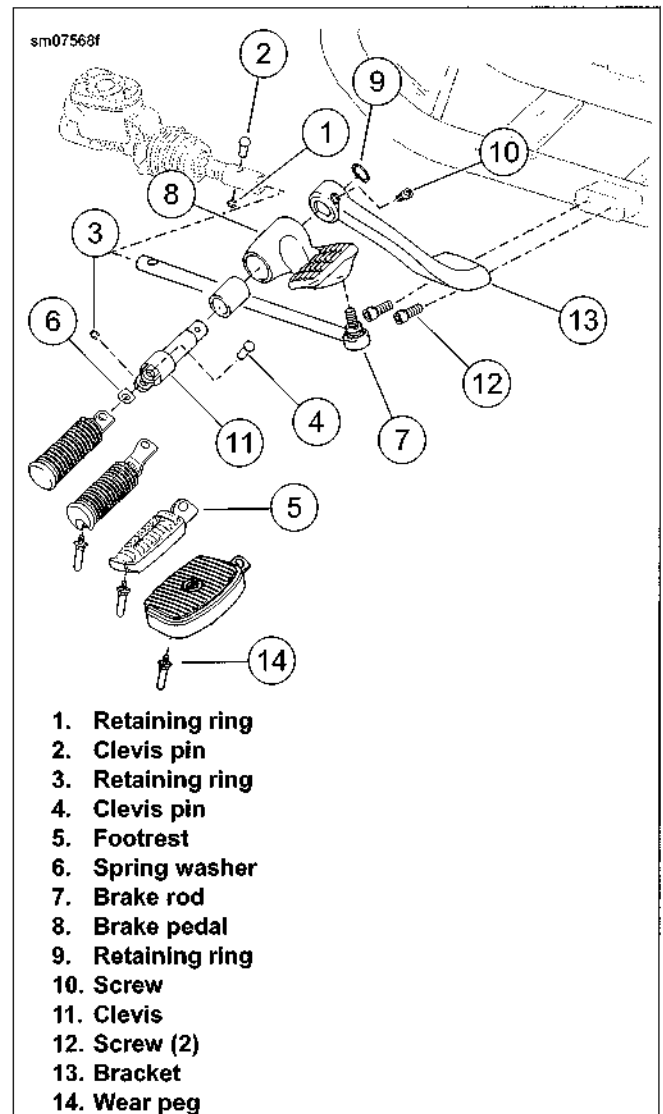

Figure 2-179. Brake Side Mid-Mount Controls
- See Figure 2-179. Remove brake rod (7).
- Remove retaining ring (1) and clevis pin (2) from master cylinder pushrod collar.
- Remove brake rod (7) from brake pedal (8).
- Remove retaining ring (3), clevis pin (4). Discard retaining ring.
- Remove retaining ring (9), screw (10) and clevis (11). Discard retaining ring.
- Remove footrest (5) and spring washer (6).
- Remove two fasteners (12) and right rider footrest/brake pedal support bracket (13) from frame.